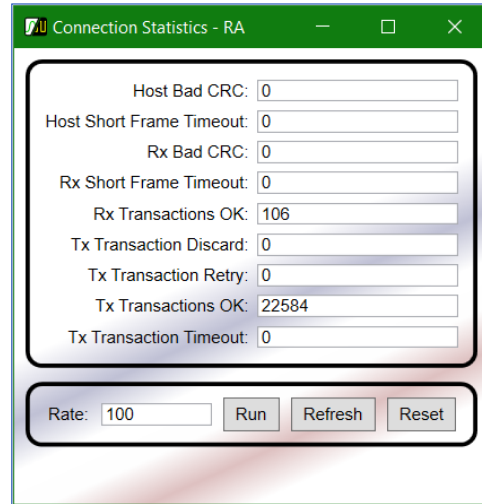

Figure 103: RA Connection Statistics
- RA – Statistics the targeted RA hardware maintains and can send to the RxAn for display, as shown in Figure 103, Connection Statistics - RA window